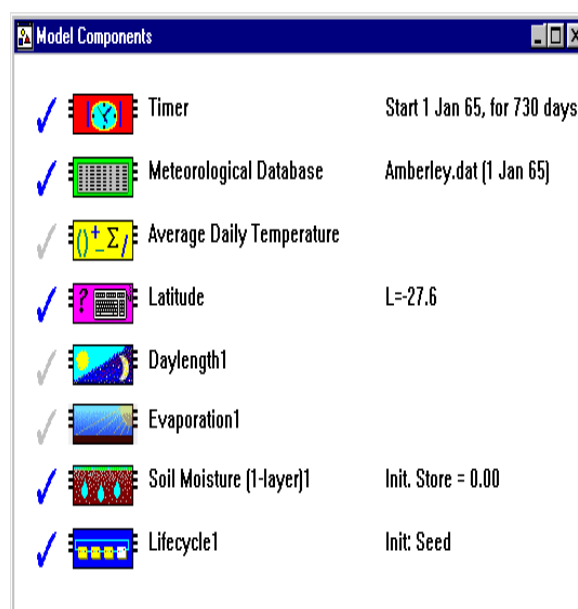

Figure 6.3 Model Components of Gen-weed model
2. The 'Model' window should resemble Figure 6.3;